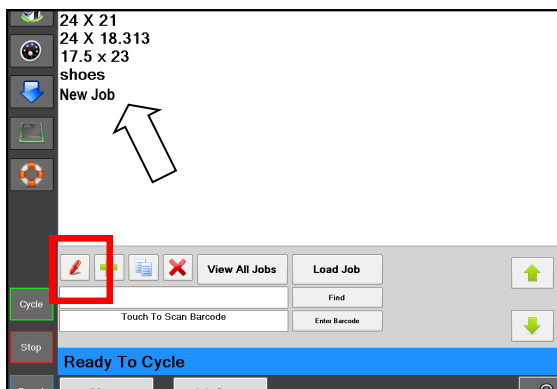

Figure 5-2B. New Job Listed.
3. Highlight the **New Job** in the Job Details Screen. Figure 5-2B.
4. Press the Red Pen button. Figure 5-2B.
5. Rename job in Job Details Screen, then enter the appropriate information in each box. Figure 5-2B.